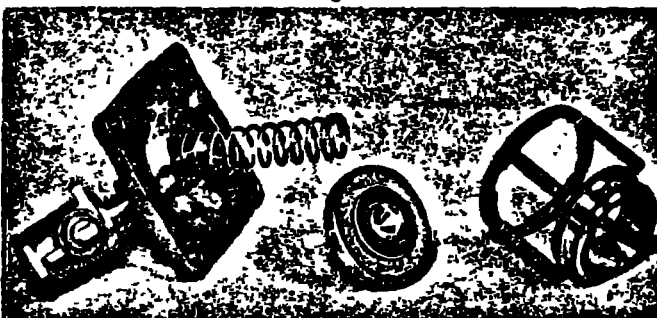

Figure 4
3. Holding the check valve module in both hands, rotate the assembly 1/4 turn. This will disengage the disc assembly, spring and seat cover into individual components. Figure 4.